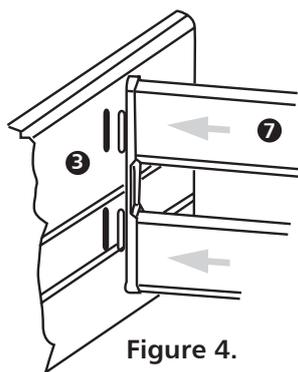

Figure 4.
8. Identify centre divider 7. Ease locating lugs into Metal Back Panel and centralise curved moulding over Front Rail 3. Push down to engage (see fig.4)